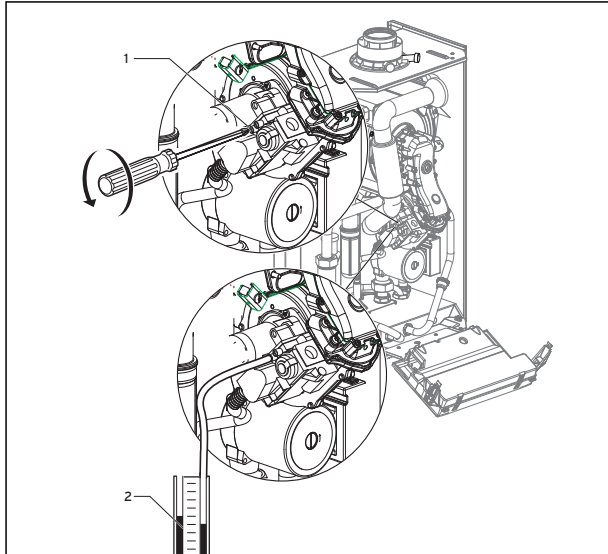

Fig. 5.3 Measuring the connection pressure
- Loosen the sealing screw marked "in" (1) on the gas valve assembly (Fig. 5.3).
- Connect a digital or a U gauge (2).
- Remove the pressure gauge and screw the seal plug (1, fig. 5.3) back on.